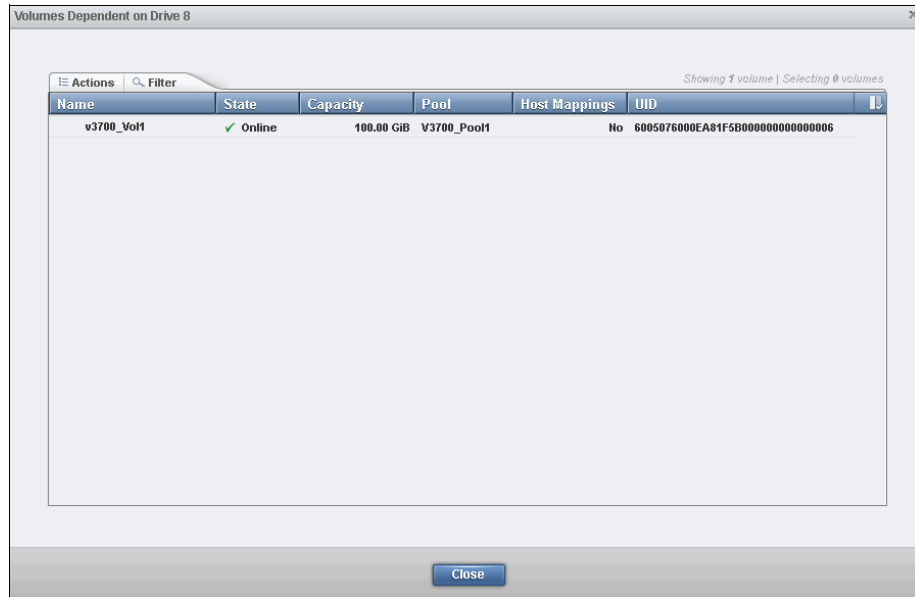

Figure 7-14 Internal drive with dependent volume
3. Figure 7-14 shows the list of dependent volumes for a drive when its MDisk is in a degraded state.